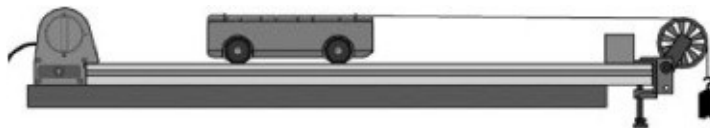

Figure 25-2 *Finding acceleration as a function of mass, while keeping the force*
- Vary the mass in the cart, but keep the applied force constant, as indicated in Figures 25-2 and 25-3.